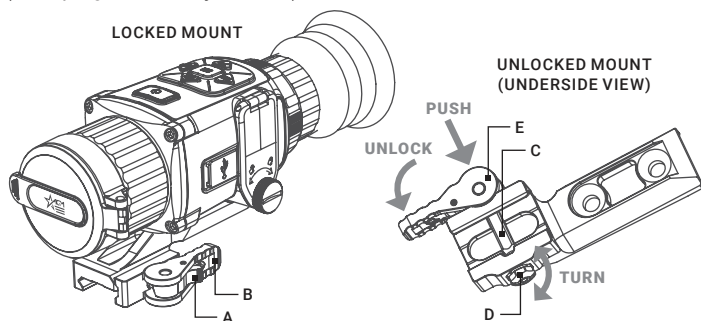

FIGURE 2-5. MOUNT
To install the Rattler on a Picatinny/ Weaver rail, perform the following (Figure 2-5) :
2. With the clamping device unlocked (as shown in Figure 2-5), push the cam (E) towards the arrow, which will cause the nut (D) to slide out of its hole.
3. To tighten/ loosen the clamping device, push down on the cam (E) and turn the nut (D) CW/ CCW respectively, in one-two increments (see note below). Much like when the cam (E) is released, backward-moving spring will cause the nut (D) to slide back into its hole.